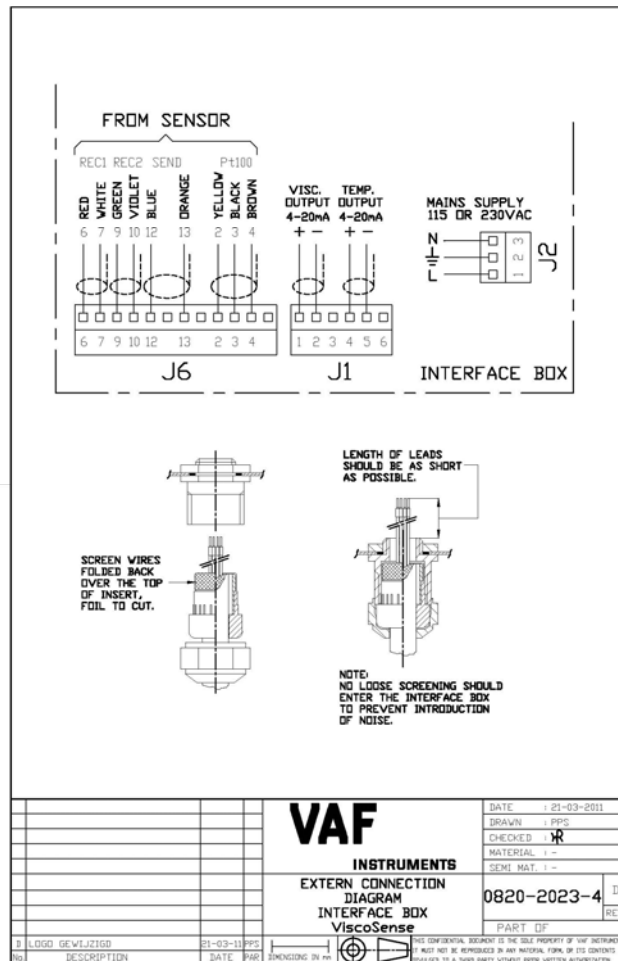

Figure 12 External connections at interface box
2. Feed cable from ViscoSense®2 sensor through gland and connect wires to terminal J6 in accordance with Figure 12.
3. Feed cable for 4-20 mA viscosity and temperature output signals through the cable glands and connect wires to terminal J1 in accordance with Figure 12. When no temperature output is connected to 4 and 5 on J1 (Figure 12), terminals 4 and 5 must be connected together with a wire link.
4. Feed cable for main power supply through cable gland and connect wires to terminal J2 in accordance with Figure 12.